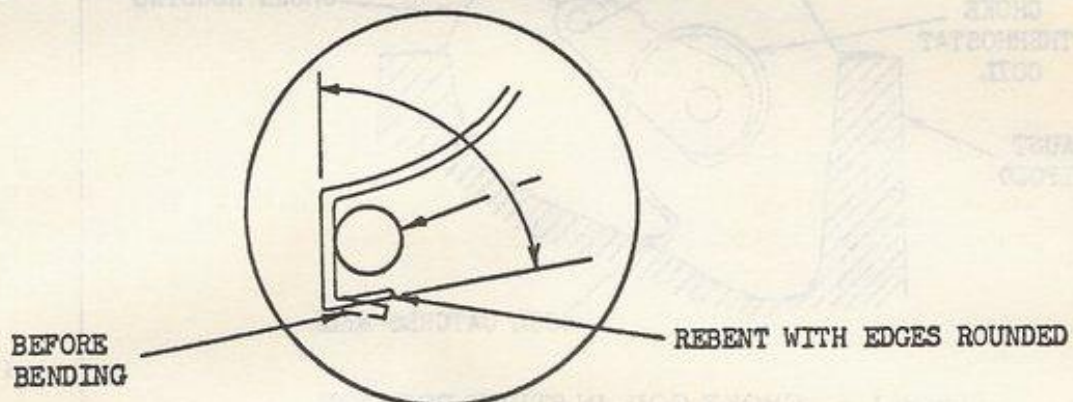

Figure 3. - CHOKE THERMOSTAT HOOK
4. Change the outer bend to provide an angle of 65-75 degrees. (as shown in Figure 3.)